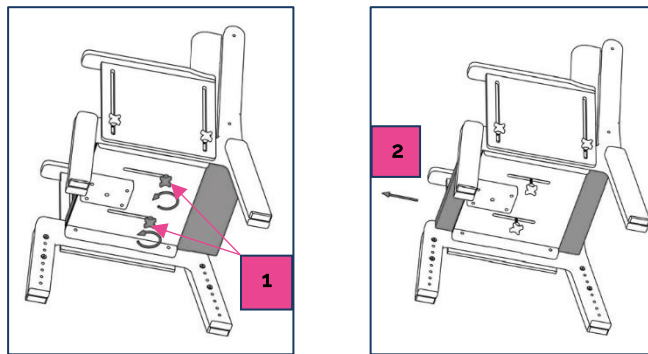

Fig. 4.2.1-1
1. Loosen the handwheels located on the underside of the seat (see Fig. 4.2.1-1 Ref 1).
2. Slide the seat forwards or backwards into the desired position (see Fig. 4.2.1-2 Ref 2), allowing a 25mm gap between the back of knee and the edge of seat.